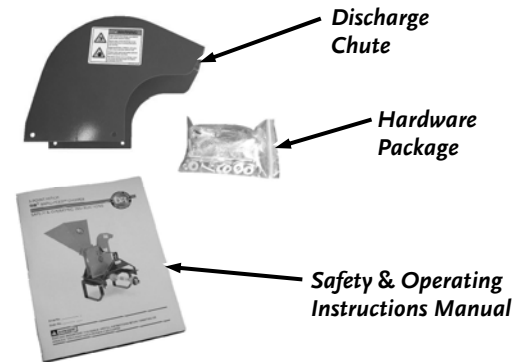

Figure 2
### Parts supplied (Figure 2):
- Parts Box containing (Items below and **Figure 2**):